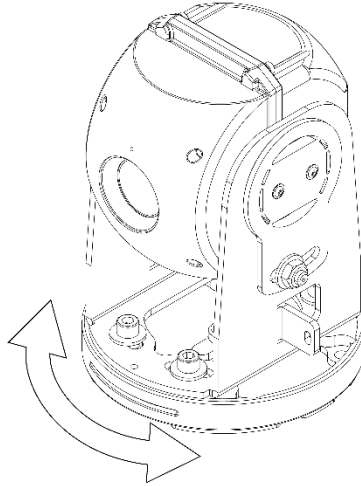

Figure 15: Tightening PAN Base Nuts
2. Lock the position by tightening the base nuts as shown in Figure 15.